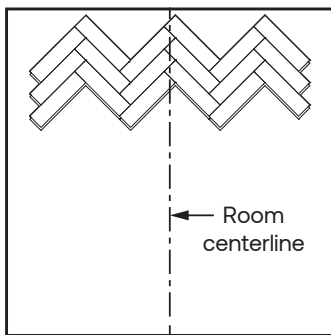

Figure 20
Step 9: Once approximately 5 complete V-rows have been installed, remove the supporting (B) panels and shift the rows towards the starter wall, as depicted in figure 20. Remember to leave an expansion gap between the wall and the panels.